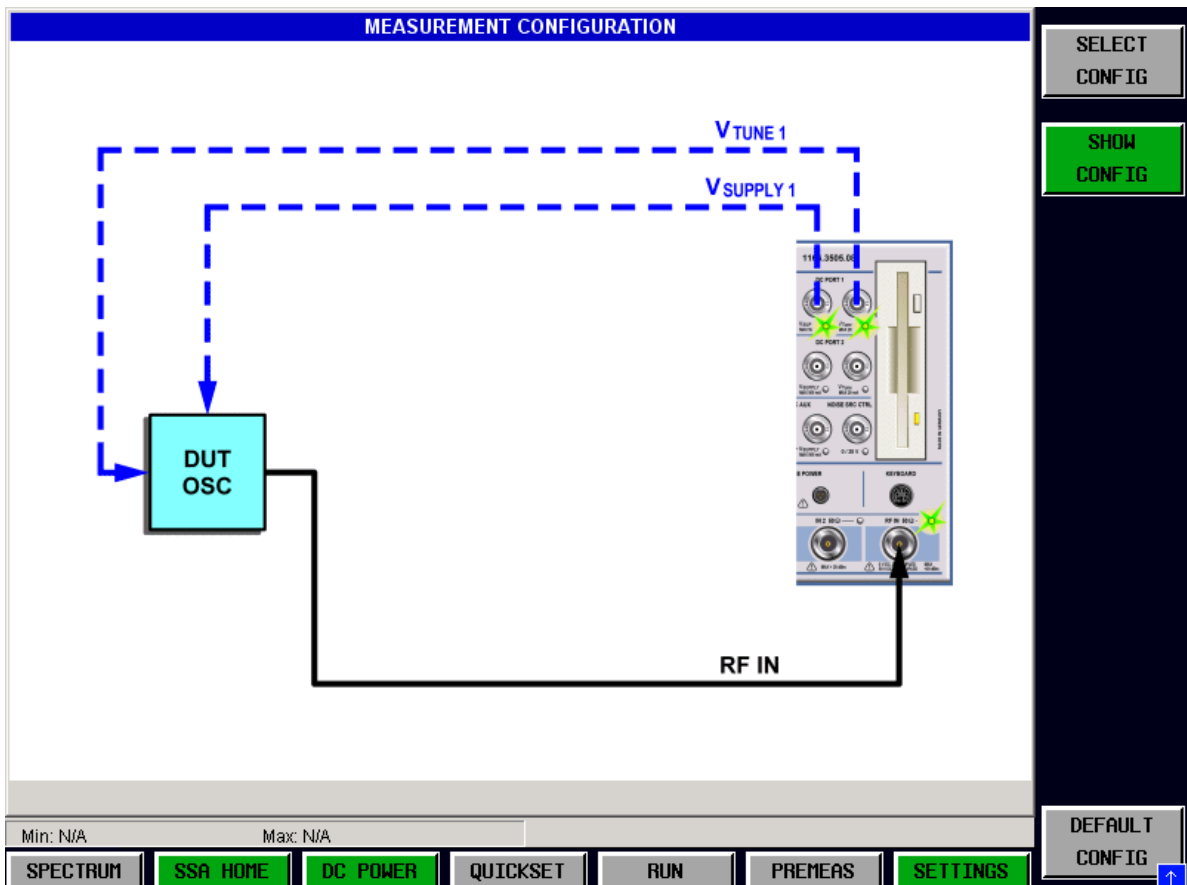

Fig. 5-5 Wiring diagram
As shown in Fig. 5-5, connect the RF output of the DUT to the RF input of the instrument. In addition, connect the DC supply voltage and tuning voltage of the DUT to the DC port1 of the instrument.
- To display the schematic diagram for proper wiring, press the softkey sequence *SSA HOME - SELECT CONFIG - SHOW CONFIG* (see Fig. 5-5 on page 11).